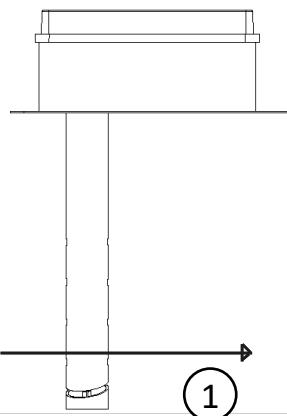

Figure 1 Flow direction
5. Temporarily replace the lid oriented so that the LED on the detector head is visible through the window. Put the tube through the hole in the duct, orient the unit so that the arrows on the lid point in the flow direction (see figure 1).